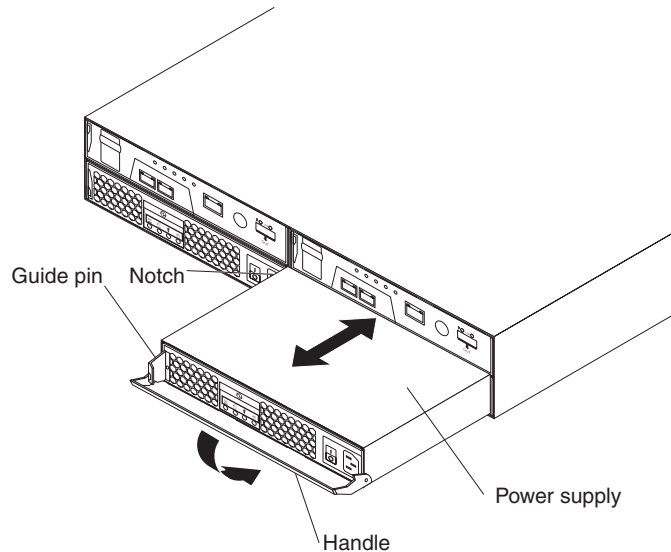

Figure 42. Replacing a power-supply unit
To replace a power-supply unit, complete the following steps. Figure 42 on page 83 illustrates removing and inserting a unit.
11. Slowly pull the handle away from the chassis to remove the power-supply unit, as shown in Figure 42.